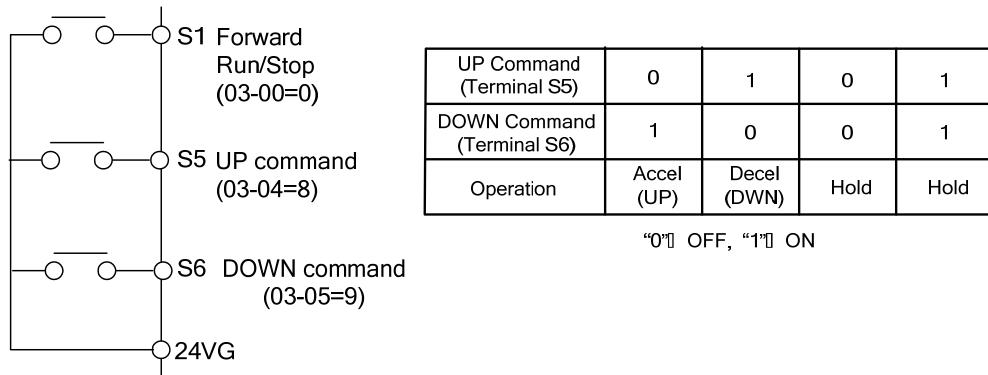
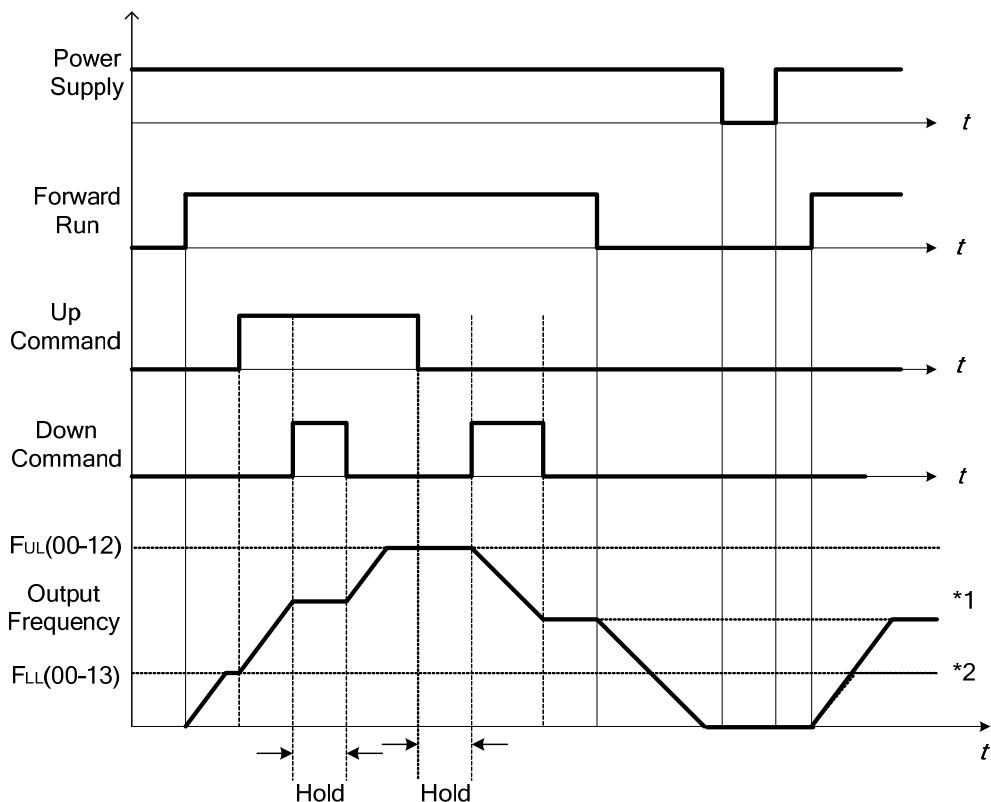

Figure 4.3.19 UP/DOW and operation example
Figure 4.3.20 Up / Down command timing diagram
- ①. When only the UP or DOWN command function is programmed to the digital inputs.
- ②. When both DOWN command and Inhibit Acceleration/deceleration command are activated simultaneously
- ③. When both UP command and Inhibit Acceleration/deceleration command are activated simultaneously.
- For the examples of UP/DOWN control wiring and operation, please refer to figure 4.3.19 and figure 4.3.20 .